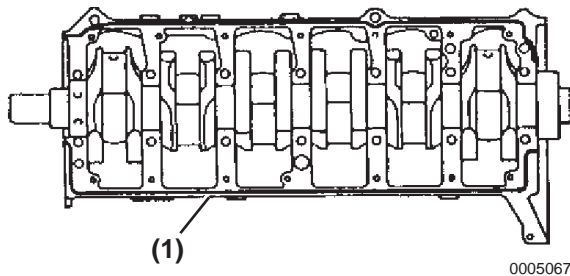

Figure 5-144
9. Apply seal packing (TOYOTA P/N 08826-00080 or equivalent) to the cylinder block (**Figure 5-144**).
- Apply the seal packing in a width of 4 to 5 mm (0.157 to 0.197 in.) (**Figure 5-144, (1)**).